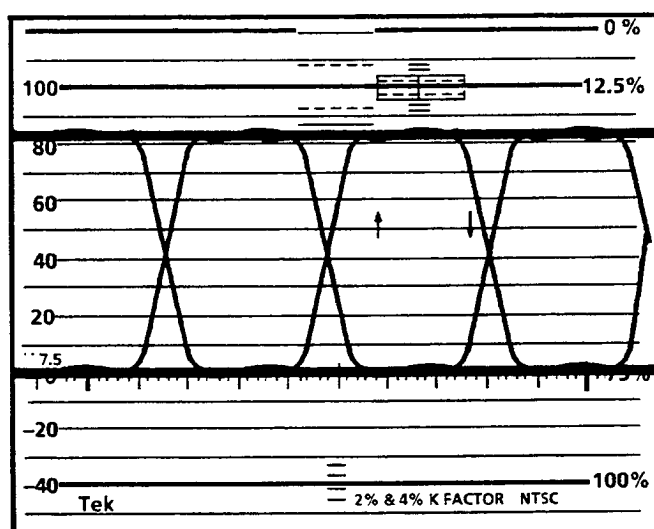

Figure 1-7: Eye pattern display
- a. Push the INPUT mode switch until the Eye pattern appears and the front-panel EYE indicator lights. See Figure 1-7.